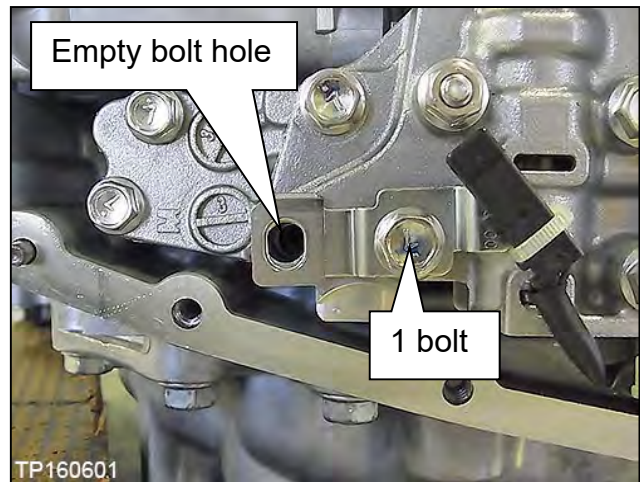

Figure 26
14. Install the CVT fluid temperature sensor bracket to the valve body with one (1) bolt (Figure 26).
**NOTE:** Leave one (1) bolt hole empty as it will be used to secure the oil strainer at a later step.